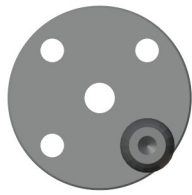

Figure 5.11: Flexion servo motor registration
1. Position the thumb at approximately the middle of the range (figure 5.11).
1. Servo motor ID: enter the appropriate ID from the Bluetooth terminal and send it (see figure 5.11 to know which ID to assign)